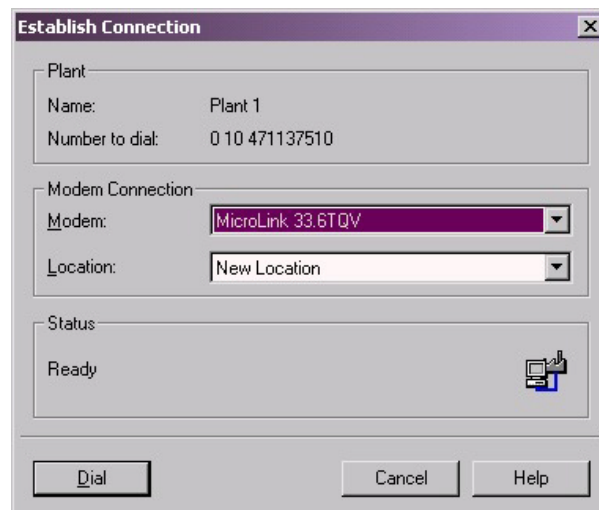

Figure 3-4 Establishing a connection to a remote system
3. Choose *Connection* ⇒ *Establish...* from the menu or double-click on the system to which you want to establish the connection. The *Establish connection* dialog box then opens (refer to Figure 3-4).